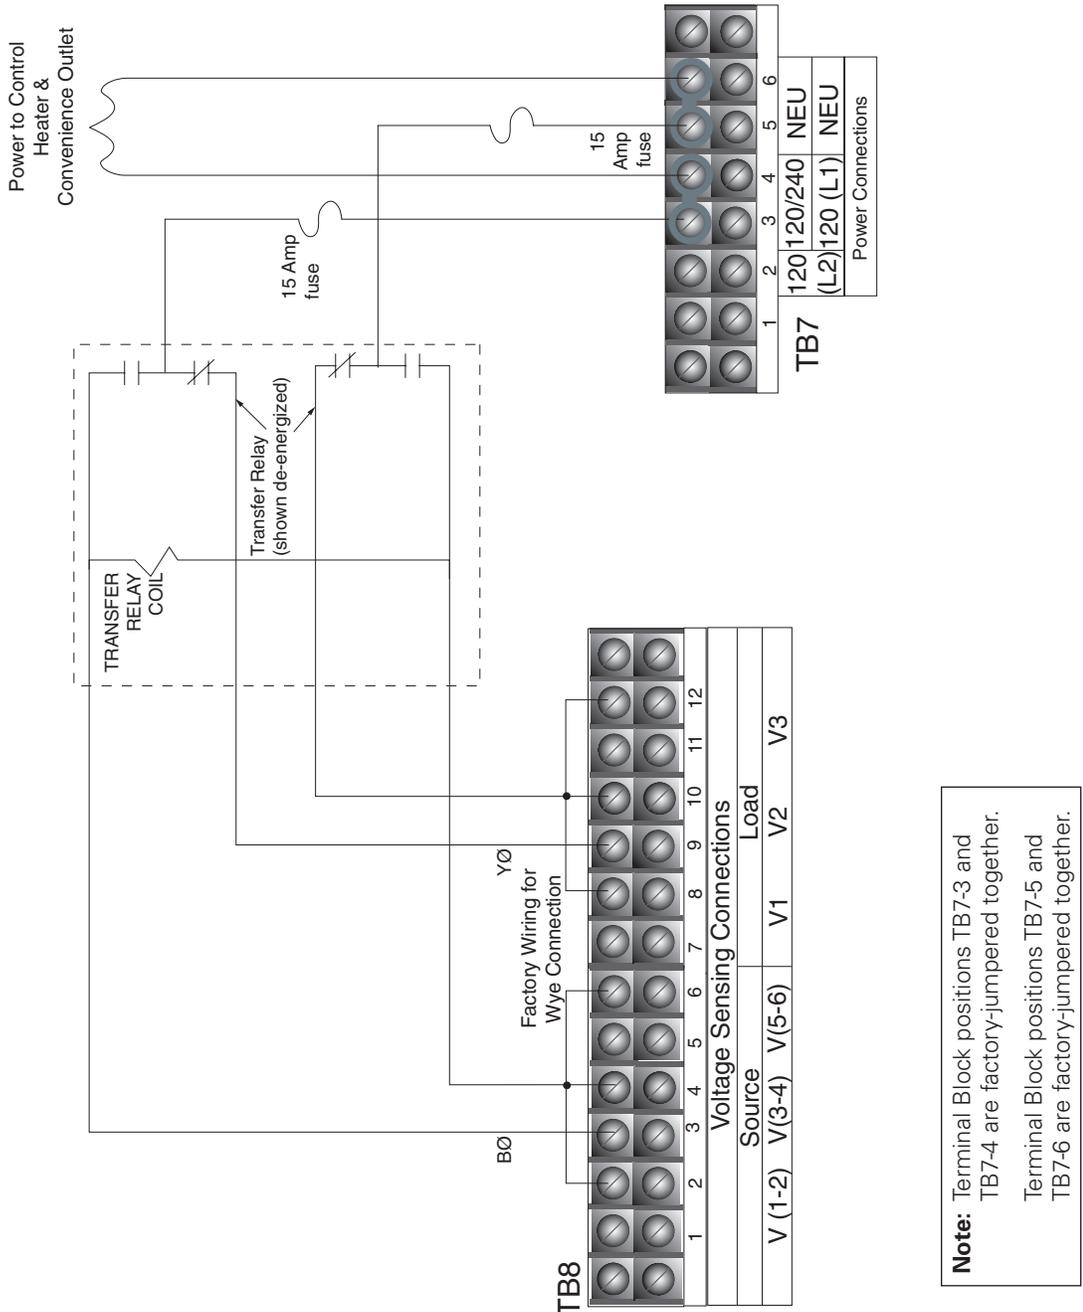

Figure 14. Default factory wiring (transfer relay connections) connected to B-Phase voltage metering with B-Phase incoming supply
Input power (120 VAC) to the Form 6-TS/LS control is connected to Terminal TB8. B phase (H) is connected to TB8-3. B phase (N) is connected to TB8-4. Y phase (H) is connected to TB8-9. Y phase (N) is connected to TB8-10. Refer to **Figure 14**.
as Source I and Source II respectively. Transfer relay output contacts connect to TB7. Refer to **Figure 14**.
Transfer relay connections are shown in **Figure 14**.